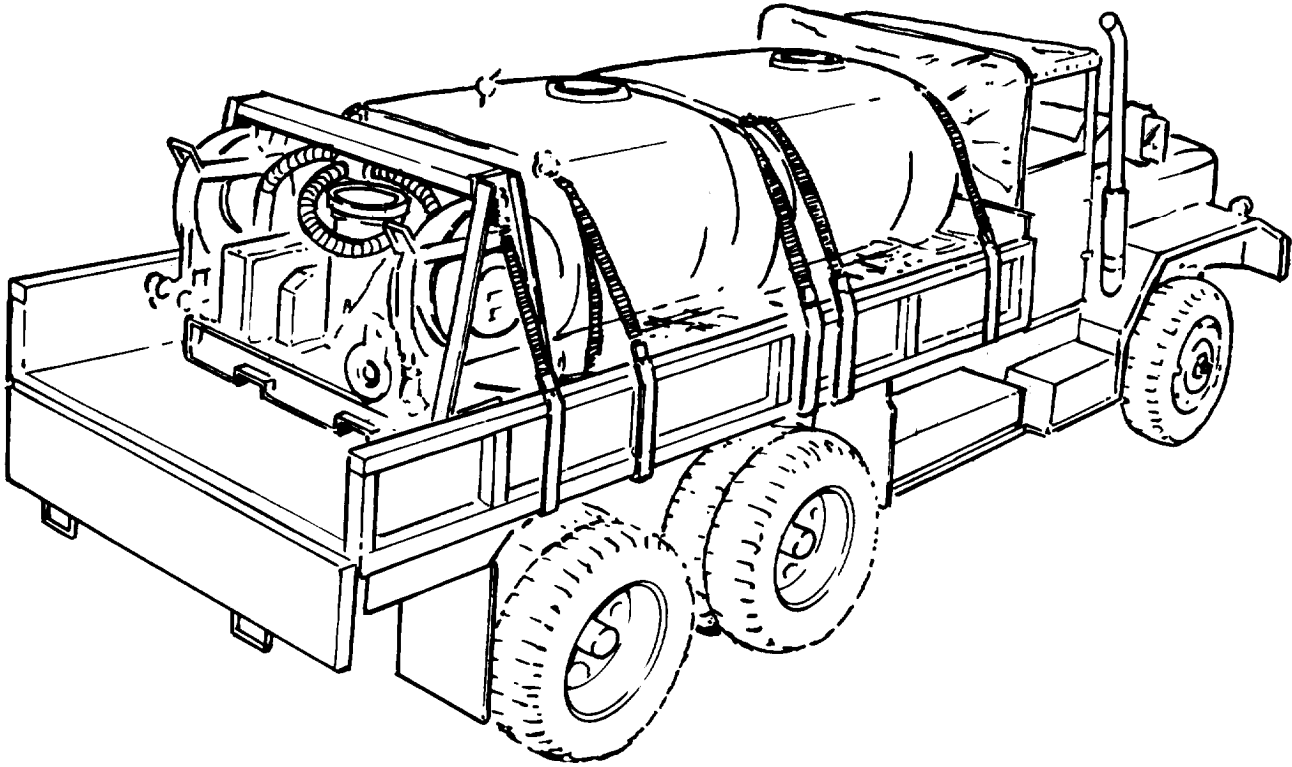

Figure 1-1. Tank and Pump Unit, Truck Mounted.
- b. Model Number and Equipment Name. Tank and Pump Unit, Liquid Dispensing; for Truck Mounting, MIL Design Tank and Pump Units, Gasoline Engine Driven Model 13217E7100, NSN 4930-00-426-9960; Electric Motor Driven Model 13217E7130, NSN 4930-01-130-7281 (figure 1-1).
The tank and pump unit (figures 1-1 and 1-2) consists of a 50gpm (189 liters per minute) pumping assembly, two 600-gallon (2271-liter) tanks and related items. It is designed for use on 5-ton series M39, M809, and M939 Cargo Trucks, with either rigid or drop sides. When installed in a cargo truck, the tank and pump unit is used in the field as a bulk carrier and dispenser. It carries 1200 gallons (4542 liters). The purpose of the tank and pump unit is to convert a general purpose military cargo vehicle into the bulk refueler. The maintenance paragraphs contain detailed descriptions of its components. (NOTE: Electric Motor Driven Pump requires Slave Receptacle mounted at right rear side of cab).